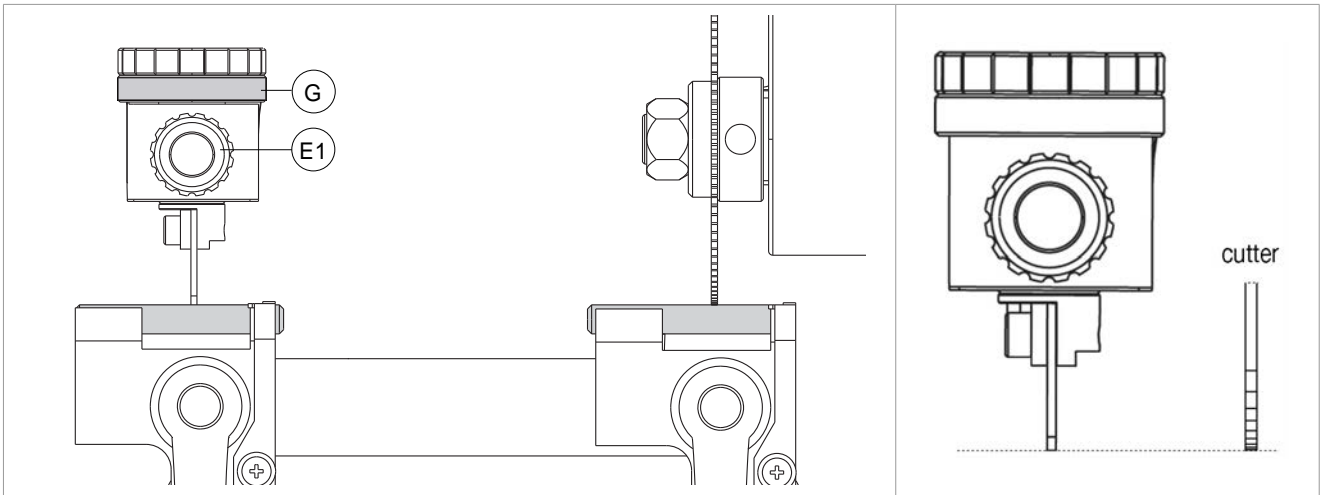

Fig. 17
- 4) Move the carriage and take the pins into contact with the tracer point and cutter (Fig. 17).